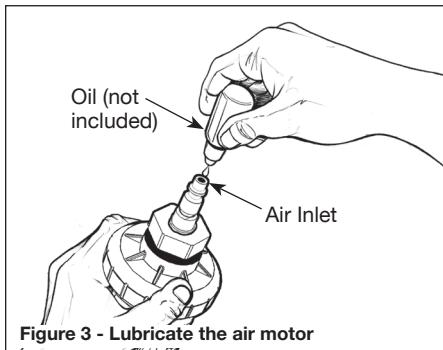

Figure 3 - Lubricate the air motor
3. While pulling the trigger, squeeze approximately a 3 to 5 drops of Campbell Hausfeld airtool oil in the air inlet. See Figure 3.